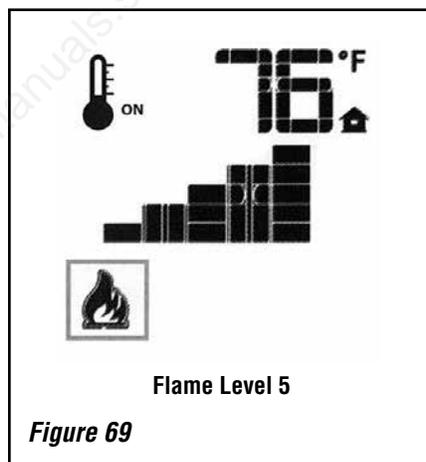

Figure 69
The system has six (6) flame levels. See **Figure 69 (next page)** for an example. With the system on, and the flame level at the maximum in the appliance, pressing the Down Arrow Key once will reduce the flame height by one step until the flame is turned off.